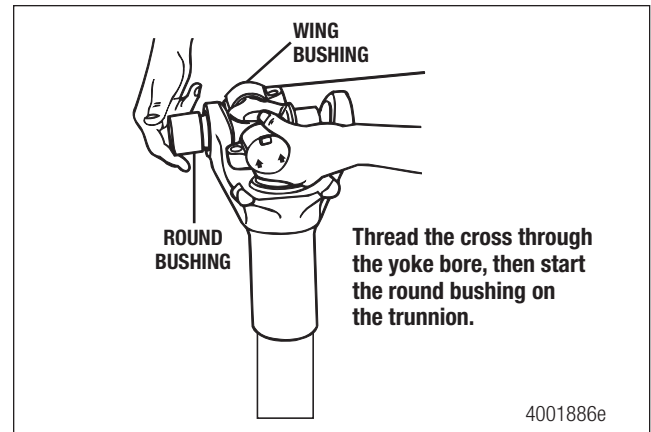

Figure 5.54
- Position the first round bushing onto the trunnion by threading the cross trunnion through the yoke bore. Figure 5.54.